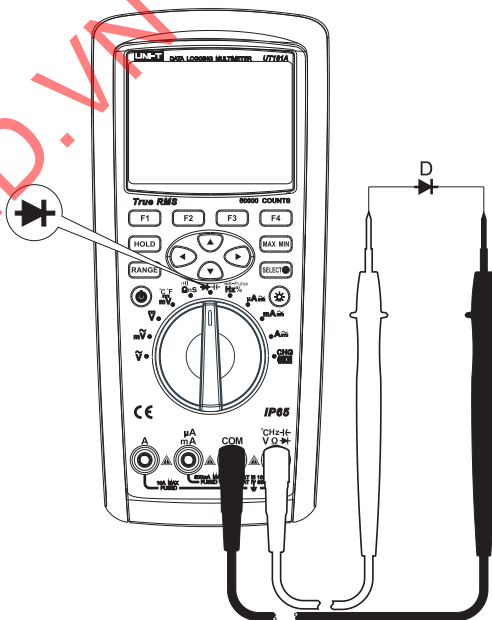

Figure 10
- 2) Set the rotary switch to the measurement \rightarrow \leftarrow and the diode measuring mode \rightarrow is default. Connect the test leads to both ends of the measured diode as shown in Figure 10. Directly read the approximate forward PN junction voltage of the measured diode on the display.